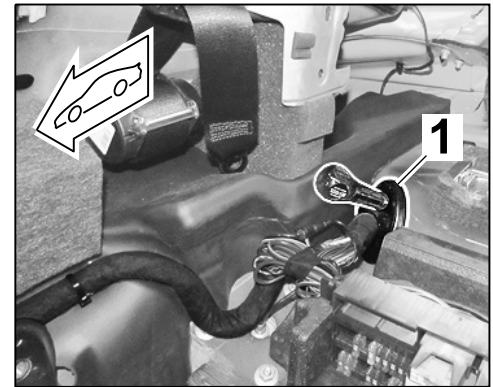

Figure 40
- 4.7 Seal grommet ⇒ *Figure 40-arrow-* with adhesive compound.